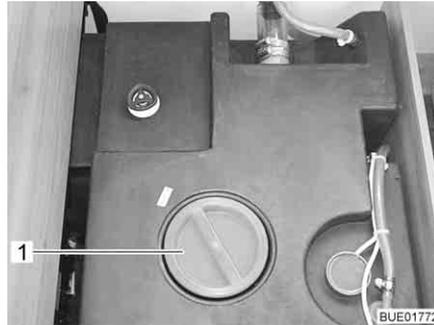
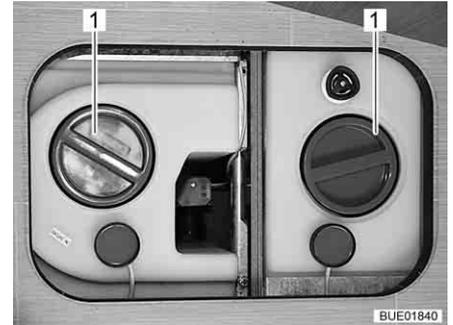

Fig. 248 Water tank with handle (Viseo)
Fig. 249 Water tank with handle (Elegance)
- Remove the cap (Fig. 248,1 or Fig. 249,1) of the water tank.